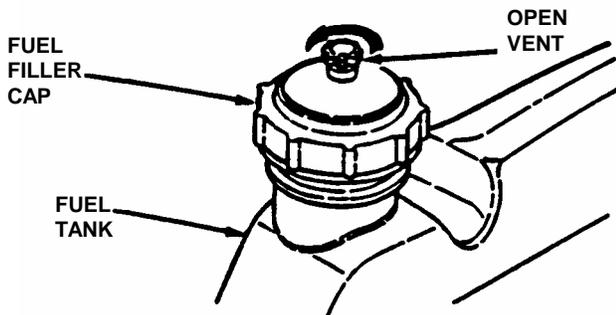

FIGURE 2.2
**2.1.8.** Add fuel to tank after pushing the Rear Engine Rider outside where fumes can dissipate. Make sure fuel filler cap is tight and vent is open after refueling. Refer to engine owner's manual for fuel specifications. See Figure 2.2.